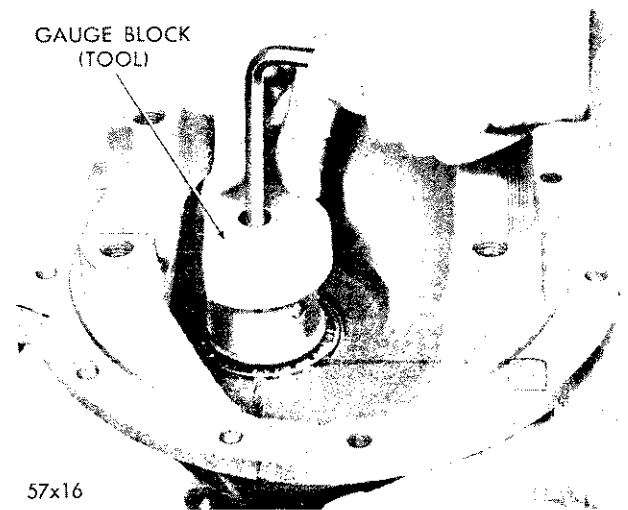

Fig. 22—Installing Gauge Block
- (1) Reverse the carrier in the stand and install gauge block SP-528 on the end of the tool (Fig. 22), attaching it to the tool with the allen screw. The flat portion of the spacer should be facing the differential bearing pedestals and the offset of the spacer (or the large portion) toward the center of the carrier. Tighten screw with an allen wrench.